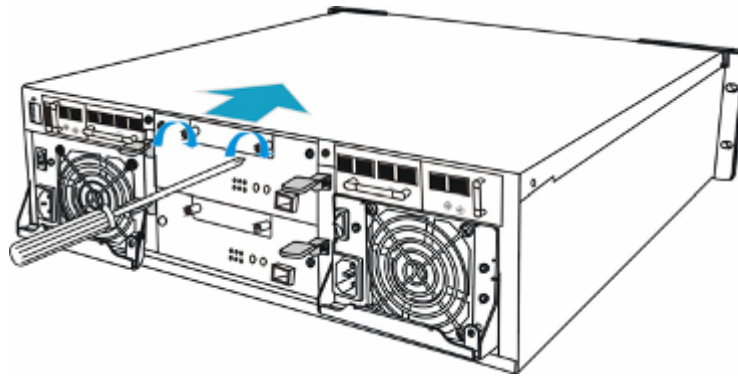

Figure 5-9: Installing the BBU
- Step 3. Secure the BBU to the subsystem** by fastening the two (2) retention screws on the back of the BBU. (See *Figure 5-9*)